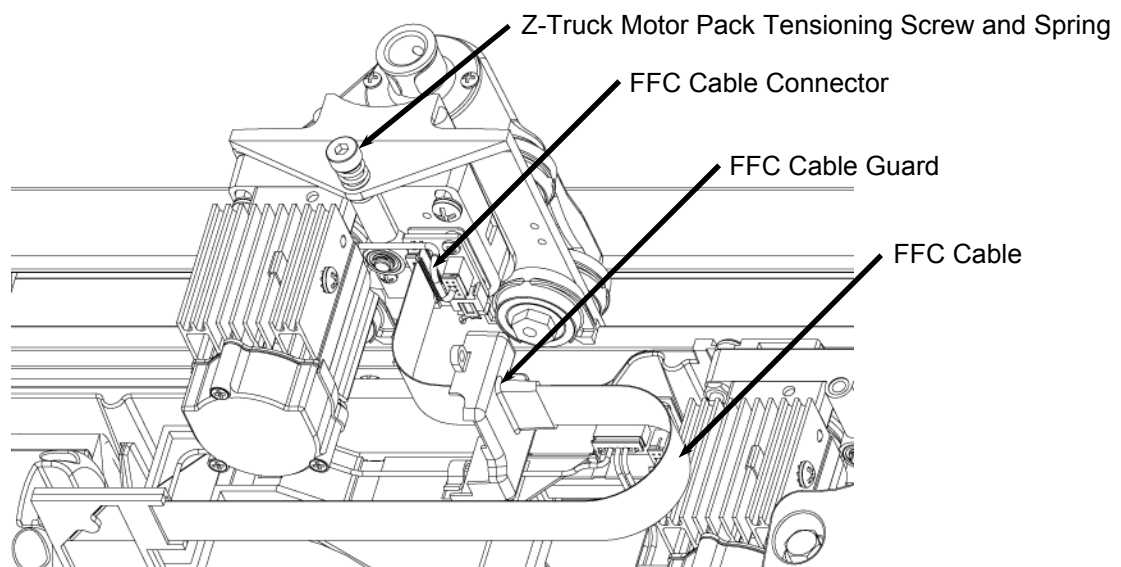

FIGURE 11: VIEW OF THE BACK OF THE Z-MOTOR PACK
9. **Re-assemble the FFC cable:** Plug the FFC cable into the FFC connector on the head termination board. Be careful to protect the FFC cable at all times from nicks or bends. We recommend placing a small blob of glue on the interface between the cable and connector after the cable has been fully seated. Use thick glue such as Liquid Nails so that it does not penetrate into the connector. Do not use thin glues such as superglue. Replace and tighten the screw securing the FFC cable guard as shown in Figure 11.